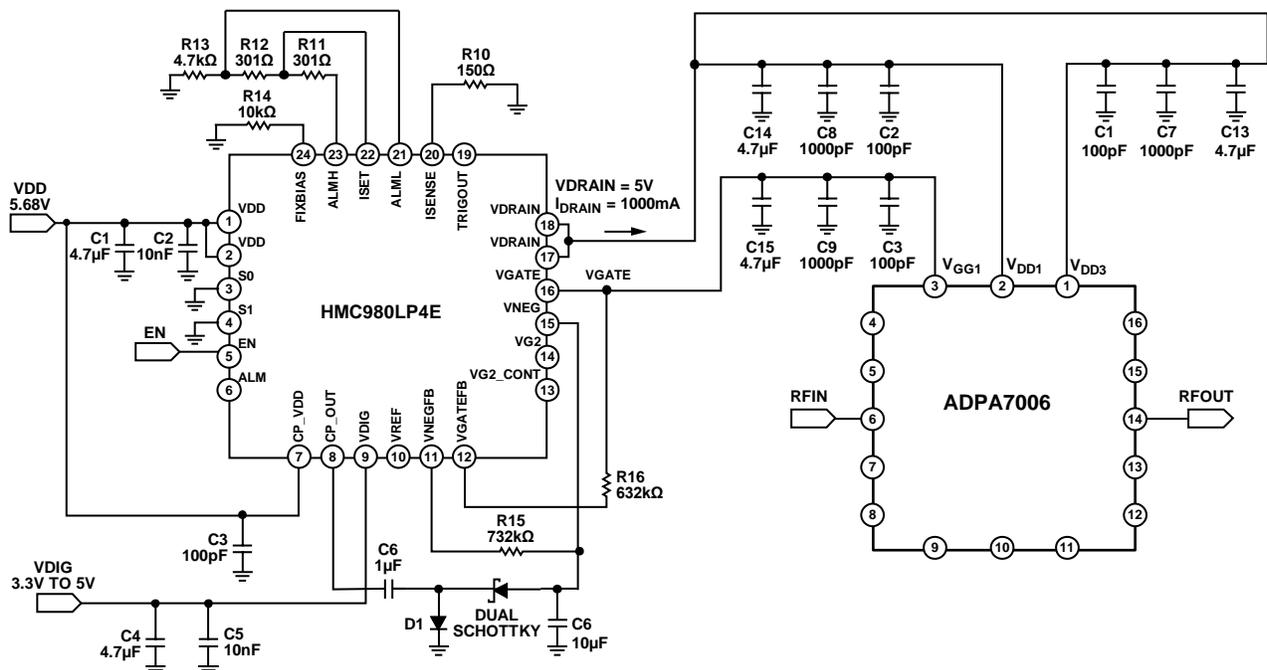
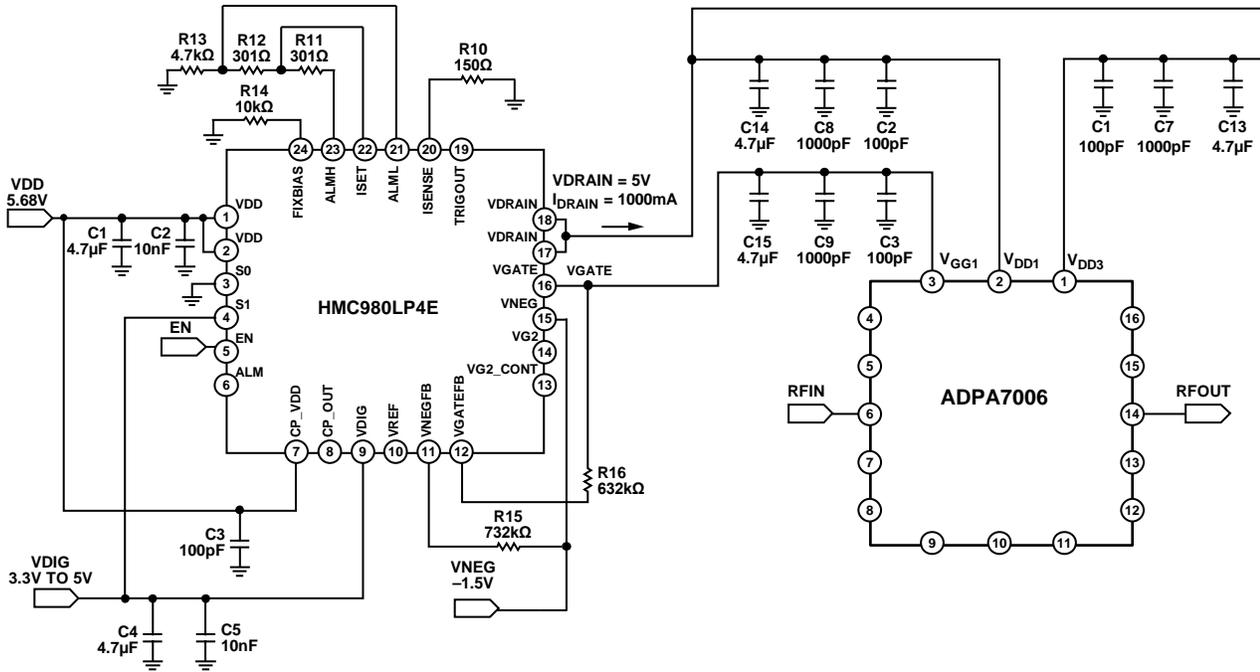

Figure 55. Application Circuit Using the **HMC980LP4E** with the **ADPA7006**
Figure 56. Application Circuit Using the HMC980LP4E with the ADPA7006 as an External Negative Voltage Source
When using an external negative supply for VNEG, refer to the schematic in Figure 56.
When using the ADPA7006 to control the **HMC980LP4E**, the minimum voltages for the VNEG and VGATE pins of the **HMC980LP4E** must be set to -1.5 V to keep these voltages within the absolute maximum ratings limit for the ADPA7006 V_{GG1} pin. To set the minimum voltages, set the R15 and R16 resistors to the values shown in Figure 55 and Figure 56. Refer to the [AN-1363 Application Note, Meeting Biasing Requirements of Externally Biased RF/Microwave Amplifiers with Active Bias Controllers](#), for more information and calculations for R15 and R16.
1. Set VDIG, the voltage supply input (Pin 9) for the HMC980LP4E digital circuit (see Figure 56), to 3.3 V.
3. Connect S1, the digital control pin (Pin 4) that sets the internal field effect transistor (FET) and the internal HMC980LP4E resistor (R_{DS_ON}) resistance (see Figure 56), to VDIG (3.3 V).